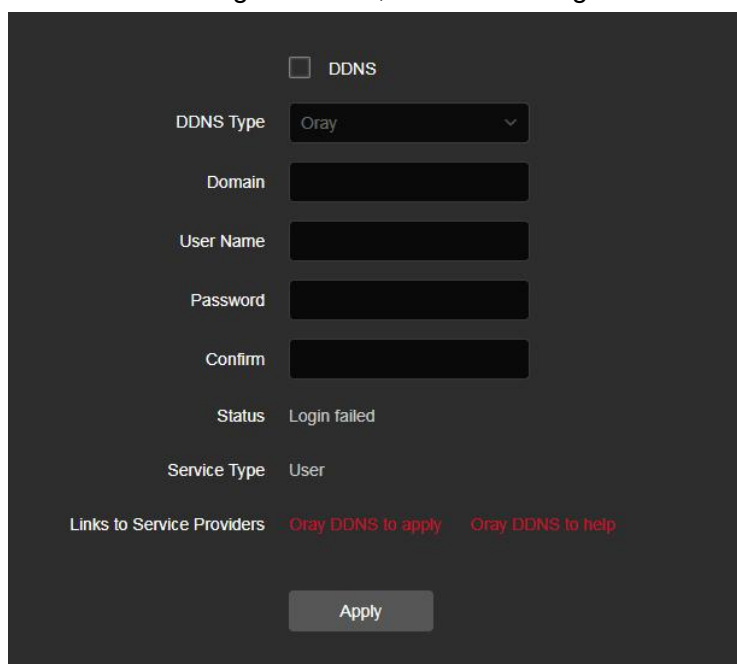

Figure 8-3-4
Step 1: In the main interface, click "Configuration → Network → Basic Settings → DDNS" to enter the DDNS function settings interface, as shown in Figure 8-3-4: